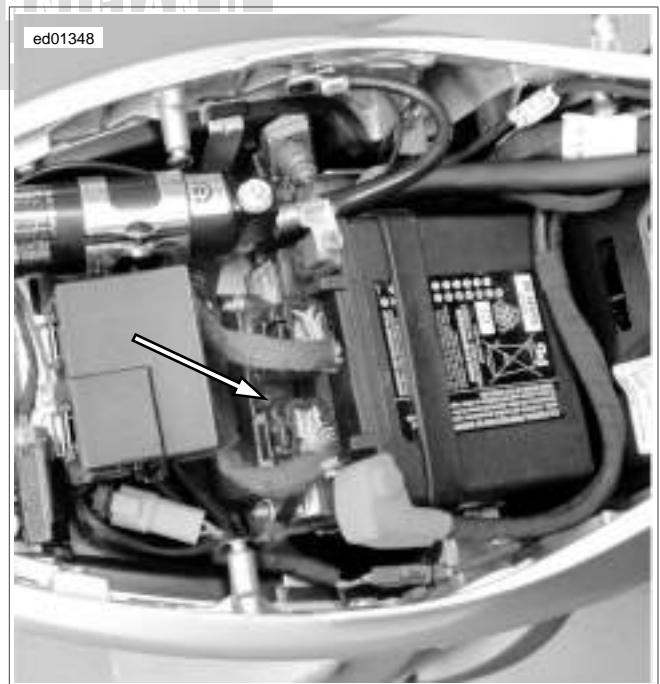
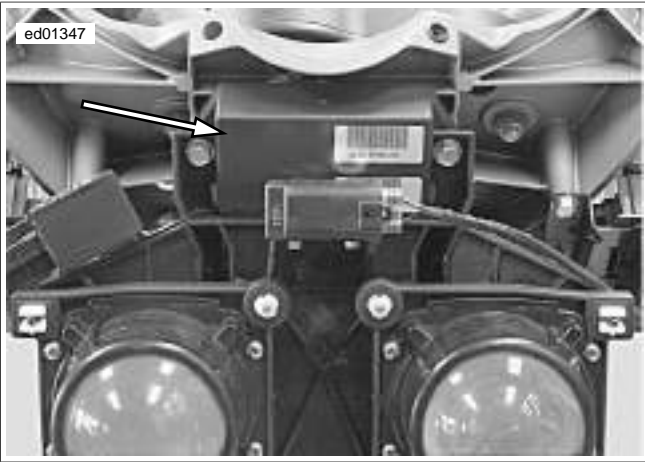

Figure 2-19. Electronic Control Module (Lightning)
Figure 2-20. Electronic Control Module (Firebolt)
2. See Figure 2-18, Figure 2-19, Figure 2-20. Inspect connector [10] (black) for contamination or corrosion. If connection is good, replace ECM. See 2.13 NO ECM POWER.